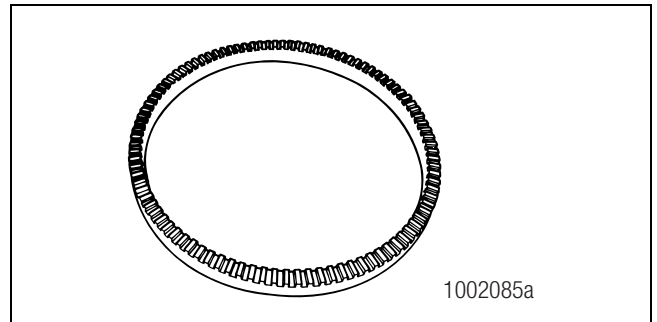

Figure 2.4
- A machined ring mounted to the machined surface on the hub of each ABS-monitored wheel. Figure 2.4.